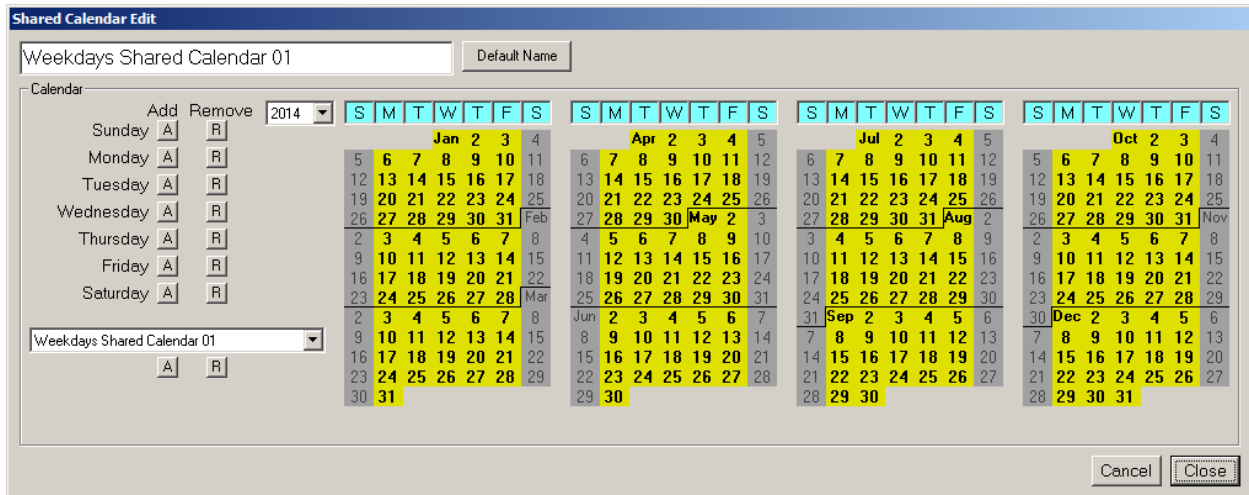

Figure 2.16 Shared Calendar
2. Select an unused Shared Calendar as shown in figure 2.16, and then press Edit.